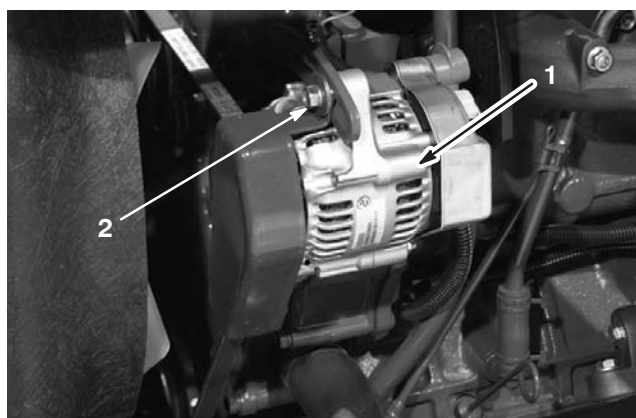

Figure 52
Check the condition and tension of the belts (Fig. 52) after every 100 operating hours.
2. If the deflection is not 3/8 in. (10 mm), loosen the alternator mounting bolts (Fig. 52). Increase or decrease the alternator belt tension and tighten the bolts. Check the deflection of the belt again to ensure that the tension is correct.